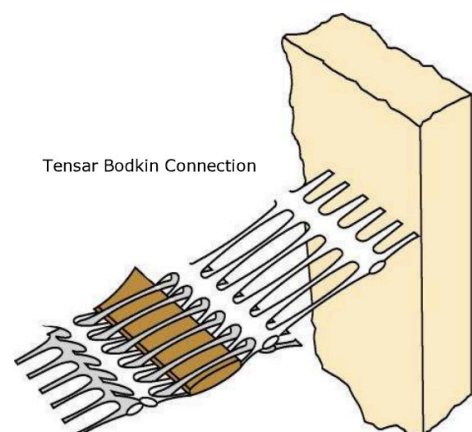

Figure 3 Tensar bodkin connection
- Using the correct Tensar bodkin[1] to connect the Tensar geogrid reinforcement to the cast-in Tensar geogrid tab as per the detail in Figure 3.